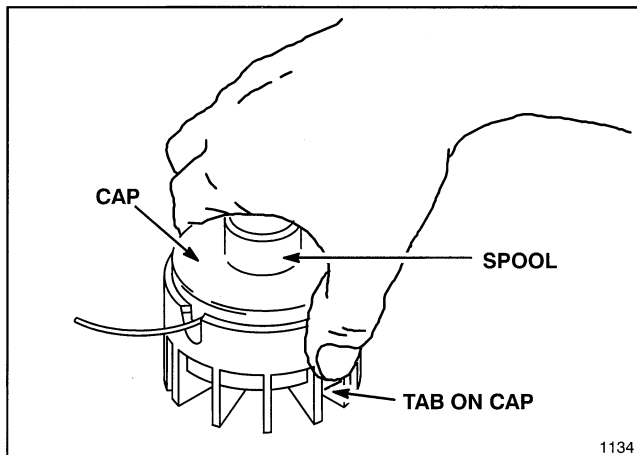

Figure 11
2. To remove empty spool, invert trimmer, place hand over spool and press in tabs on each side of cap (Fig. 11).